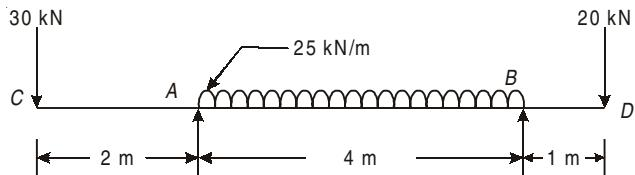

Fig. 12
54. An overhanging beam is shown in Fig. 12. Draw S.F. and B.M. diagrams and find point of contraflexure.